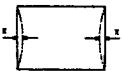

Figure 7
2. Adjust VR405 until Pincushion X $\leq 1.8mm$ (See Figure 7)